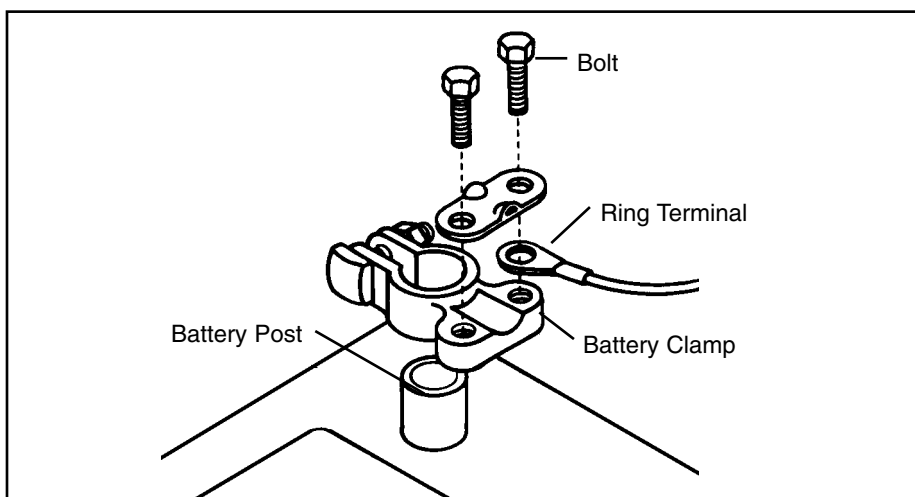

Figure 2 Attaching Ring Terminals and Battery Clamps
4. Assemble the two lead wires from control panel to the battery with the two battery clamps included per Fig. 2.